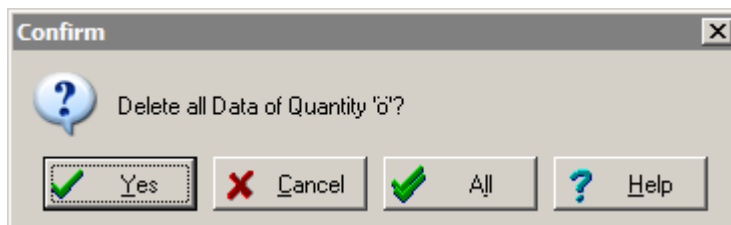

Figure 23: Confirmation message for deleting Quantities
1. If any changes to a quantity name have been introduced, the new name will replace the old name in the quantity table. After user-confirmation (see Figure 23), all data connected with the old quantity will be deleted. Selecting *All* will delete all quantities without further confirmation.